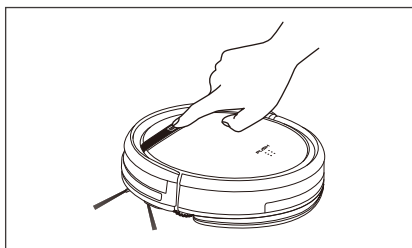

Figure 4
5. Close the robot lid, press CLEAN button to start the wet cleaning, There is no vacuum suction function during the wet cleaning. (Figure 4)